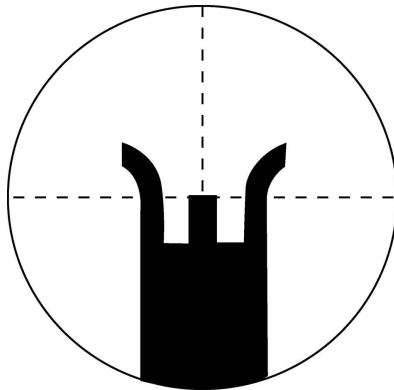

Figure 2-29. Front Sight Post
- c. Obtain a good sight picture and good sight alignment with the unmarked aperture and the front sight post. Refer to Figure 2-29.